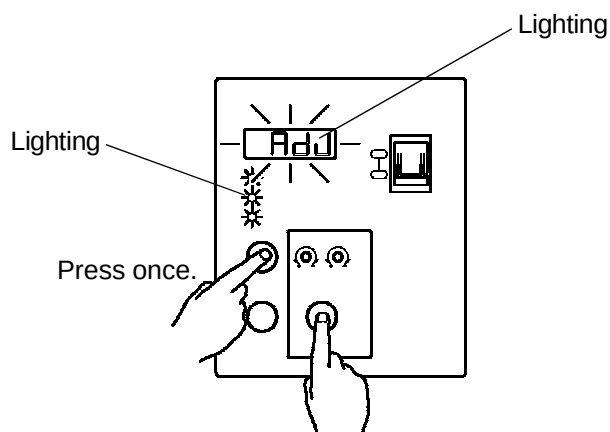

Fig. 31
8) Check that the Display Window is showing "AdJ". "AdJ" indicates that the unit is currently in the Adjust Mode. See Fig. 31.